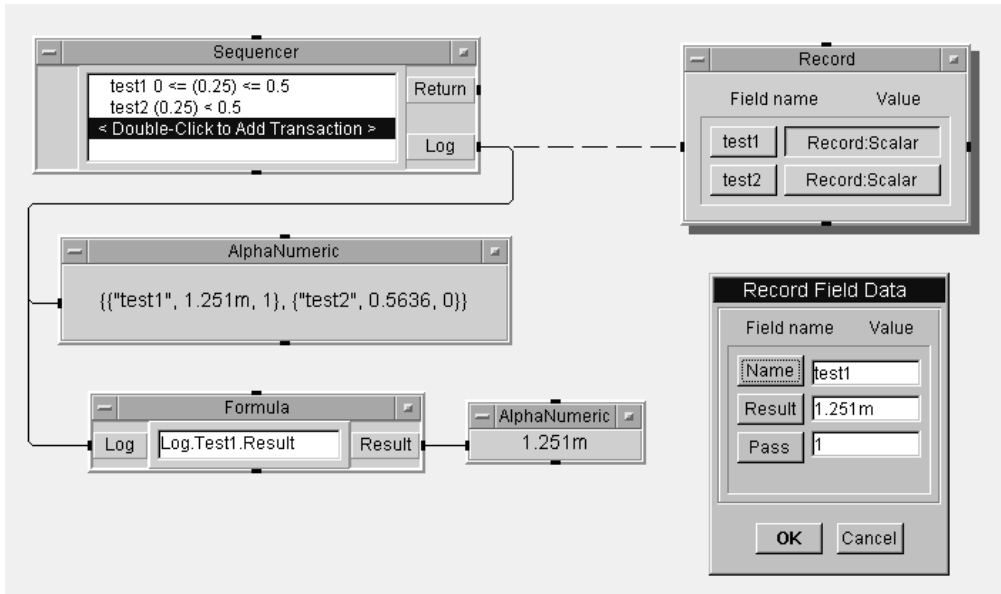

Figure 15.5. Stored data in the Record object
40. Examine the stored data in the Record object by clicking the button to the right of the test of interest (test1 or test2). See Figure 15.5. Save your modified program As...LAB15-1c.